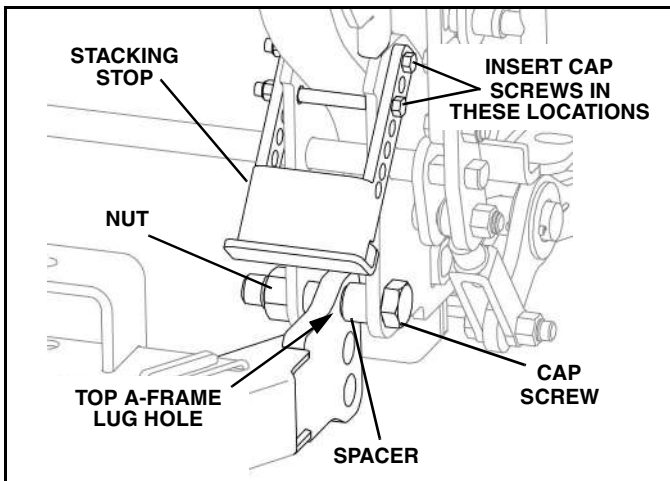

Figure 1-12
c. With a dimension of 10" to 11", the top lug holes are used to connect the A-Frame to the Lower Light Lift Bar (LLLB) frame. Insert the cap screw (from the outside) through the LLLB frame, spacer, A-Frame lug top hole and LLLB frame. Secure with nut. Position the Stacking Stop as shown and secure with two cap screws and nuts as shown. Repeat this step for the opposite side. (See Figure 1-12)